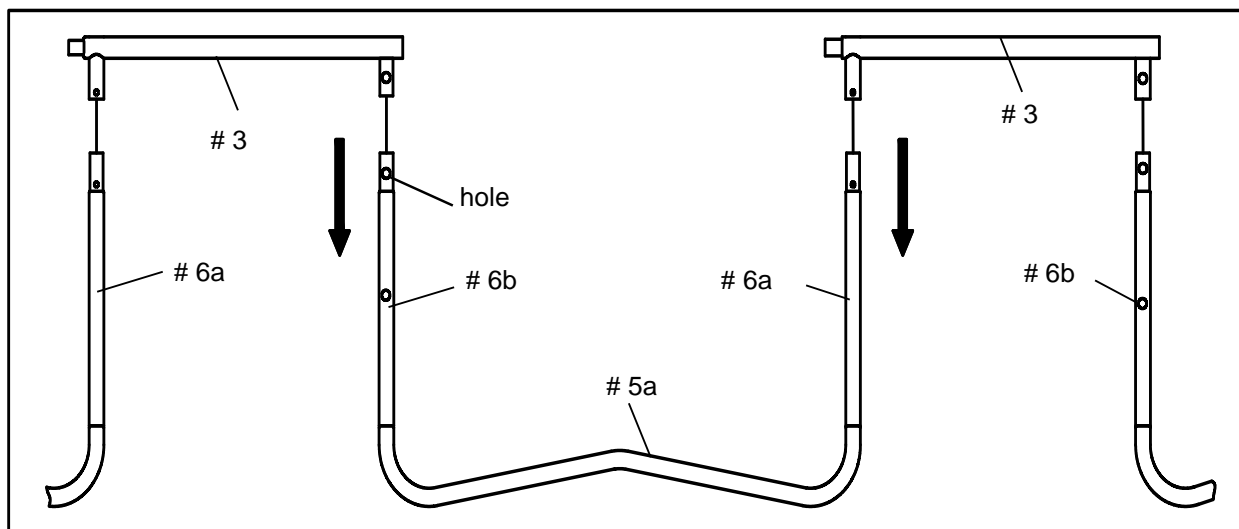

FIGURE 4A
- A. Lift the Leg Support assembled in STEP 2 to a standing (vertical) position as shown in FIGURE 4A. Insert one end of the Top Rail with Leg Sockets (# 3) into the Vertical Leg Extension (two holes) (# 6b), then insert the other end into the Vertical Leg Extension (one hole) (# 6a) of another set of Leg Support. Make sure the holes on the metal tubes are facing outward (Note: this is important for installing the enclosure later). Repeat the above step until all Top Rail with Leg Sockets (# 3) have been attached to the Leg Supports.